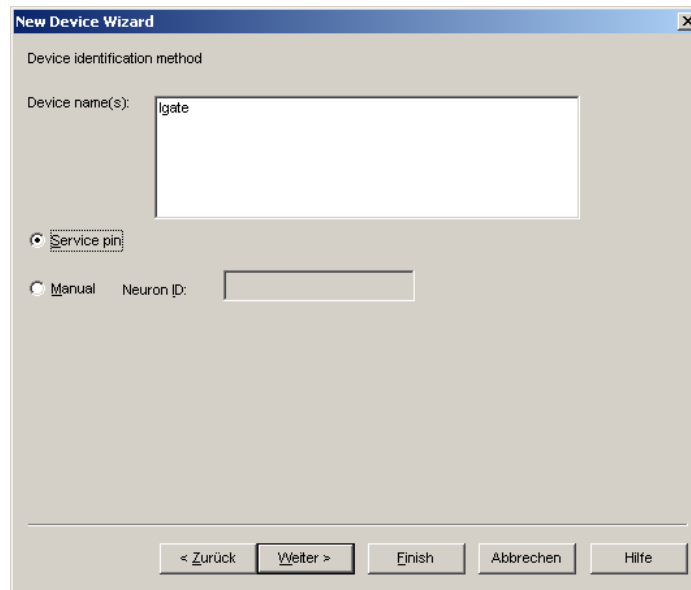

Figure 62: Use Service Pin.
6. Check Service Pin as the device identification method as shown in Figure 62 and click **Next**.